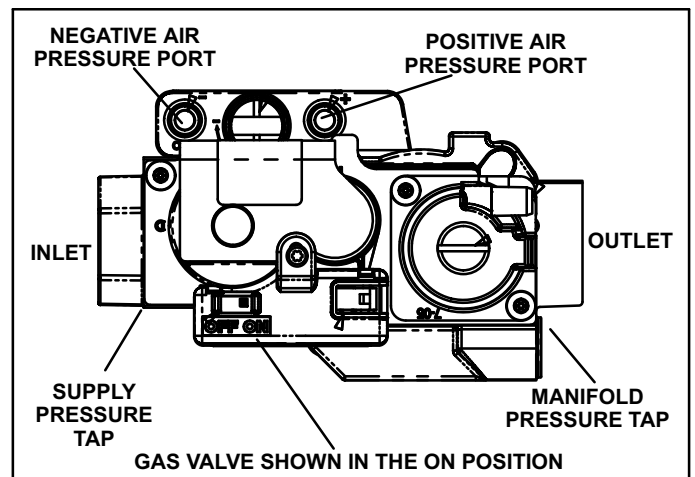

FIGURE 47
Gas Valve Operation (Figure 47)
- 6 - Move the gas valve switch to the **OFF** position. See figure 47.
- 8 - Move gas valve switch to the **ON** position. See figure 47. Do not force.
When testing supply gas pressure, connect test gauge to supply pressure tap on the gas valve. See figure 47. Check gas line pressure with unit firing at maximum rate. Low pressure may result in erratic operation or underfire. High pressure can result in permanent damage to gas valve or overfire. See table 29 for operating pressure at unit gas connection (line).